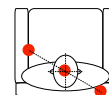

Figure 18.3: Recommended *ARC* microphone placements (in red) for a single listening position.
- the location of the listener's head, as shown in Figure 18.3